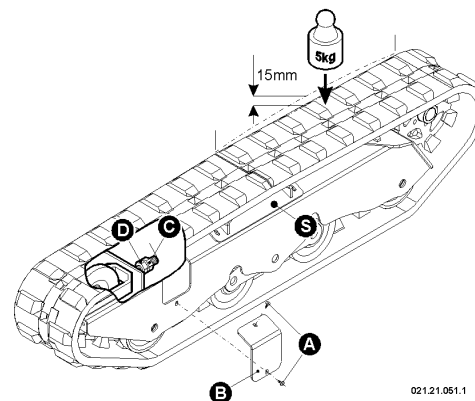

fig. 52 - Track Tension Regulation
- Make sure the arrow is 15 mm near the middle, front or back to the slide "S" of the track (*see fig. 52*);